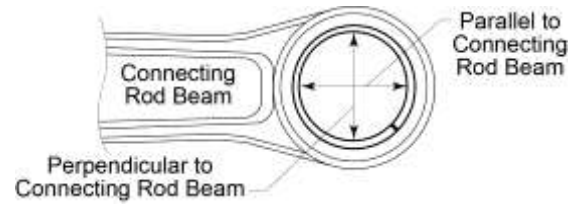

Figure 36
- C. After bushing removal, measure the inside diameter of the connecting rod both parallel and perpendicular to the connecting rod beam (Figure 36). If either inside diameter measurement is not between 1.1833 in. (30.056 mm) and 1.1848 in. (30.094 mm), discard the connecting rod and replace it with a serviceable connecting rod.